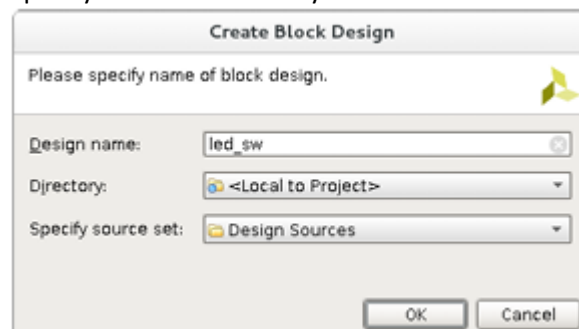

Figure 2: Create Block Design
- On the left side, in the Flow Navigator under the IP Integrator section, click on 'Create Block Design'. A window opens where you can specify the name of your design(eg. led sw). Leave the 'Directory' and the 'Specify source set' as they are. Click on the 'OK' button. (Figure 2)